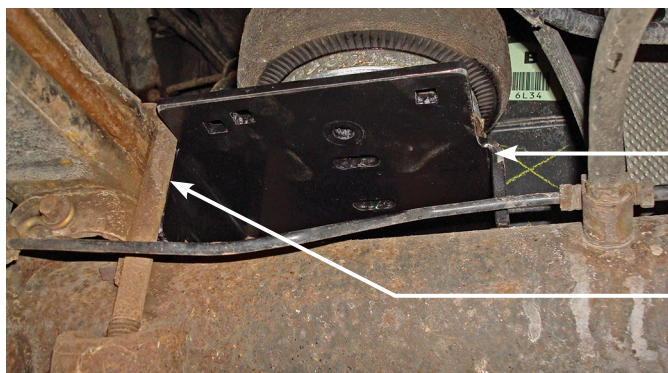

fig. 10
The bracket must nest in between the stock U-bolts that hold the leaf spring to the axle (fig. 10). Repeat for the other side.
*Make sure the lower bracket stays against the leaf spring and in between the stock U-bolts (fig. 10).*